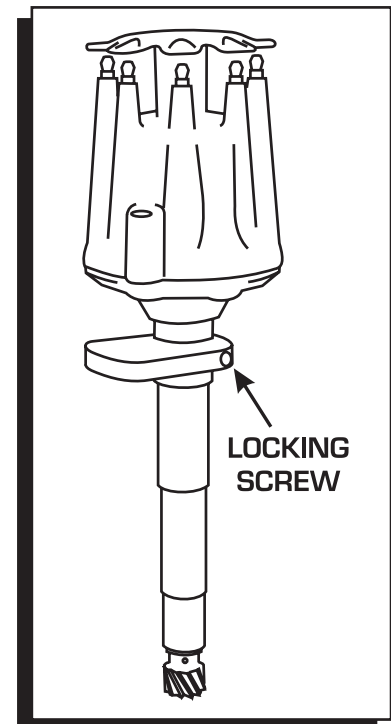

Figure 10 Adjusting the Hold Down Clamp.
2. Use a 3/26" Allen Wrench to loosen the locking screw on the Adjustable Hold Down Clamp (Figure 10).